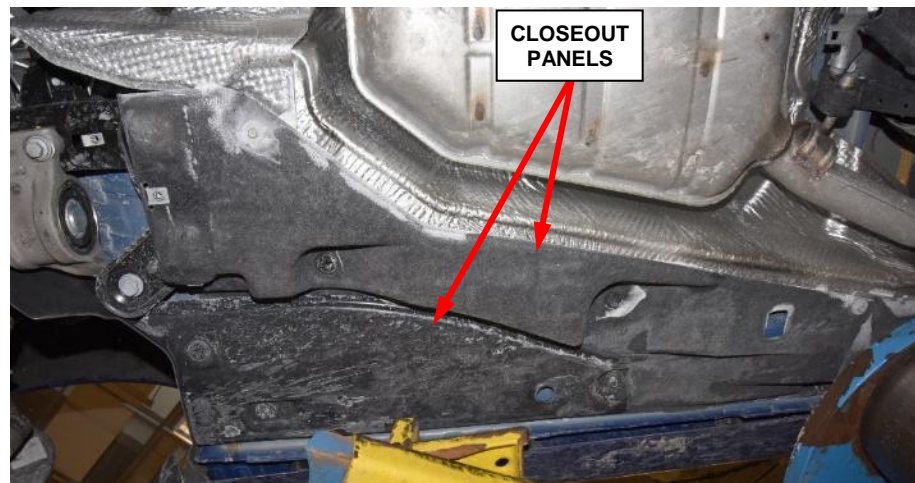

Figure 4 – Right Side Lower Sill Closeout Panels
2. Remove the right side lower sill closeout panels (Figure 4).
54. Install the right side lower sill closeout panels (Figure 4).